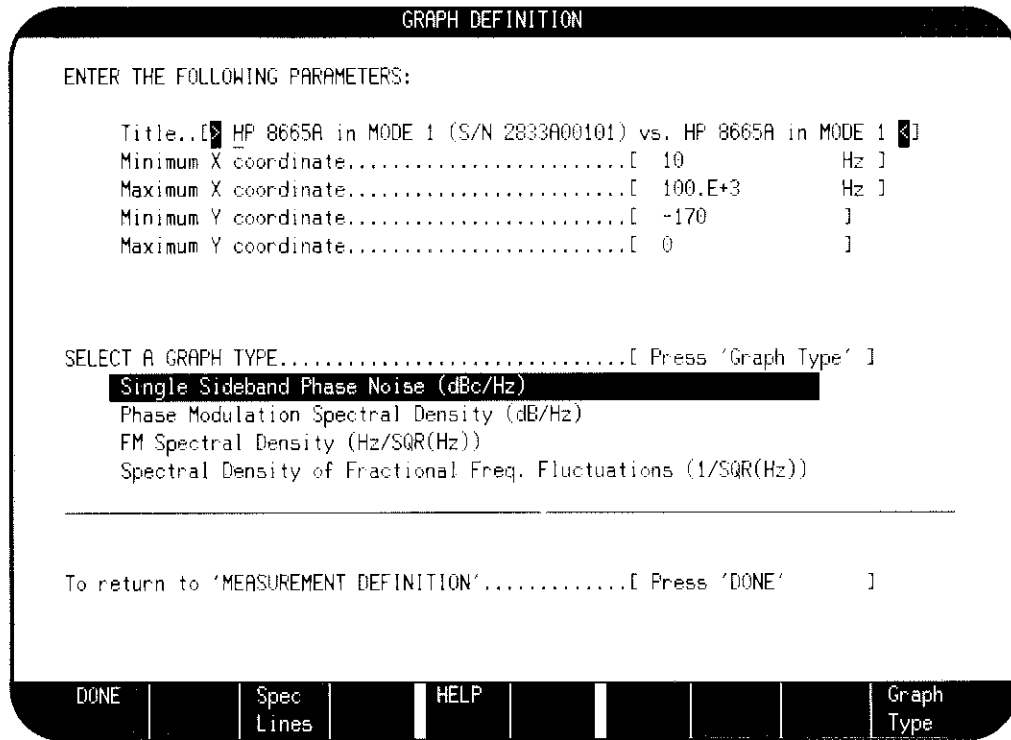

Figure 3-14. Graph Definition Menu
10. On the HP 3048A press the **Define Graph** softkey to obtain the Graph Definition menu. Set the graph parameters and graph type as shown in figure 3-14. Change the title as appropriate for your particular setup. (You may wish to include the model and serial number of the device under test. For example, "The HP 8665A with serial number 2833A00101." Note that date, time, and carrier frequency information will automatically appear on the measurement result graph.) When done, press the **DONE** softkey. (For measuring offsets only down to 1 kHz, set the minimum x coordinate to 1 kHz. See the note following step 6.)